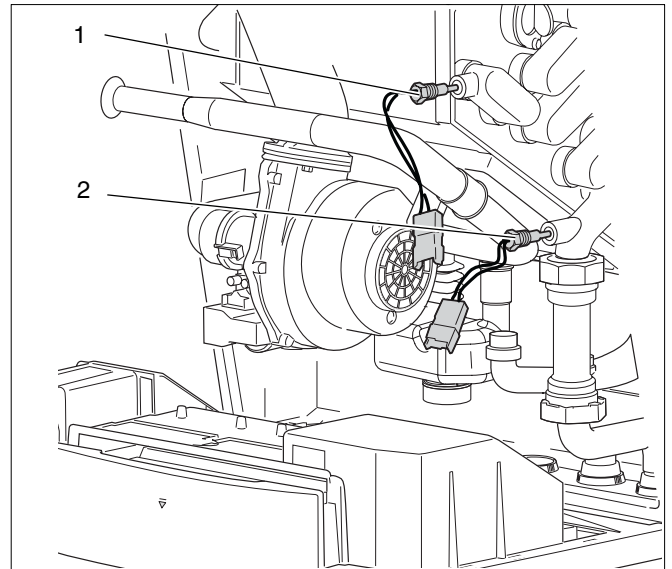

Fig. 124 Replacing the supply/return sensors
- Disassemble the supply and return sensors (see fig. 124, pos. 1 and 2).